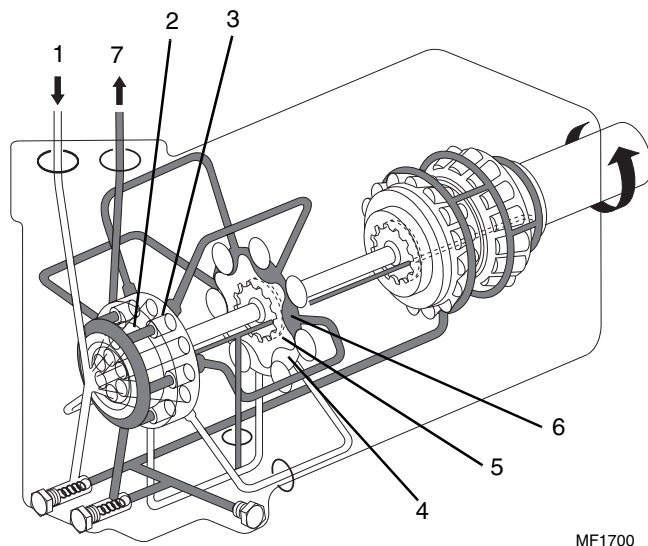

Figure 5-49 Motor Fluid Flow
Fluid flow through the torque motor for clockwise rotation is shown in Fig. 5-49. Fluid enters the housing through the inlet port (1) and is directed to the balance plate (2). The balance plate contains an inner and outer seal to separate the high and low pressure fluid passages.
Fluid passes through the stationary balance plate to the rotating disc valve (Fig. 5-49, 3). The rotating disc valve ports the fluid to the stationary valve plate and proper side of the geroler pockets (4) causing the rotor star (5) to turn.
As the rotor star (Fig. 5-49, 5) rotates, and each fluid pocket reaches its full open position, the return porting (6) in the rotating disc valve opens to allow the fluid in the pocket area to pass back through the valve plate, disc valve, balance plate and out through the housing return port (7), as the pocket closes.
The disc valve (Fig. 5-49, 3) is timed to the geroler rotor star (5) to govern the inlet fluid flow to output shaft rotation. If the timing of the disc valve to geroler star is off one tooth, the relationship of input fluid flow to output motor shaft rotation will be reversed.